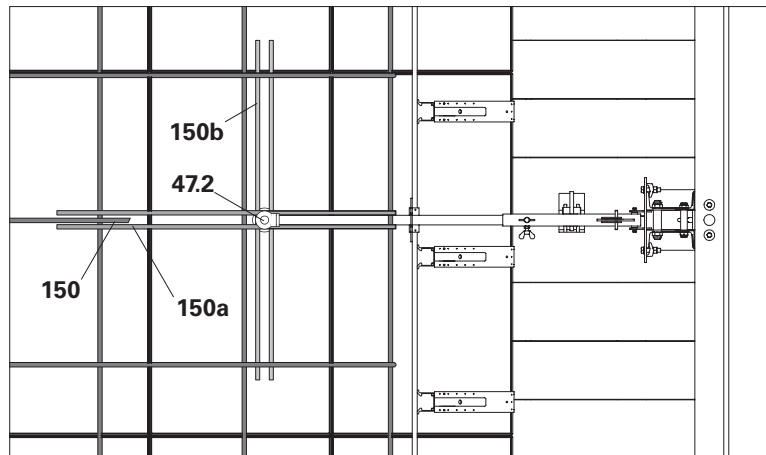

Fig. D1.04
4. Push the 4 reinforcement bars (**150a + 150b**) all the way up to the climbing cone (**47.5**) so that they touch it on each side. Wire reinforcement bars to the slab reinforcement. (Fig. D1.04 + D1.04a)